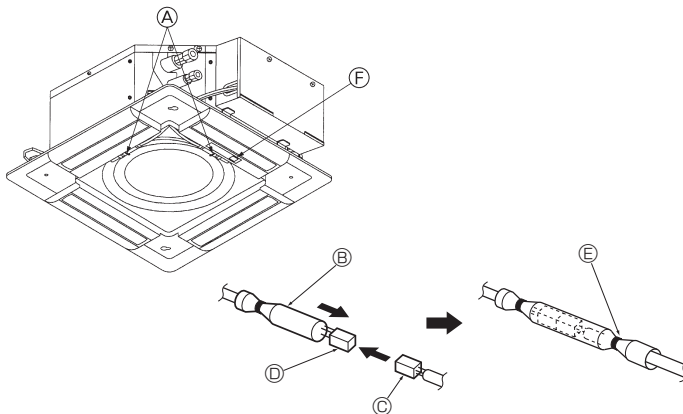

Fig. 8-8
8.3.4. Elektroanschlüsse (Fig. 8-8)